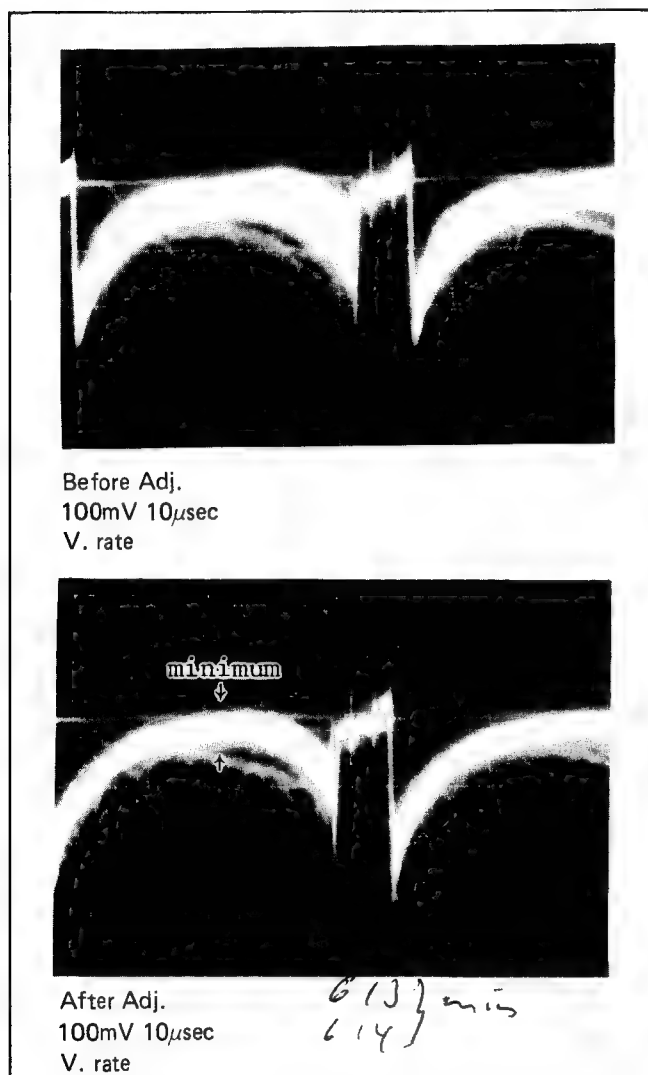

Fig. 29 Waveform of TP316
4. Alternately adjust vertical parabola control, VR613 and vertical sawtooth control, VR614 so that the signal level is minimized as shown in Fig. 29.